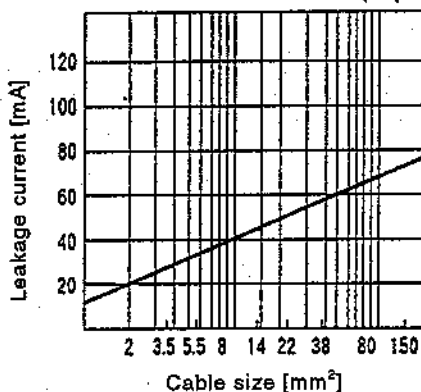

Fig. 6-1 Leakage Current per 1km ( $I_{g1}$ ,  $I_{g2}$ ) when CV Cable Is Laid in a Metal Conduit
- Leakage current on the electric channel from the leakage current breaker to the input terminal of the servo amplifier:  $I_{g1}$  [mA] (Obtain from Fig. 6-1.)
- Leakage current on the electric channel from the output terminal of the servo amplifier to the servo motor:  $I_{g2}$  [mA] (Obtain from Fig. 6-1.)